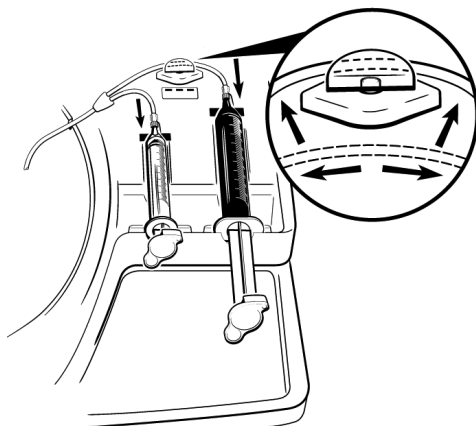

Figure 8. Stretch Syringe 2 tubing and slide into pinch valve.
22. Gently stretch the tubing attached to Syringe 2 and slide it completely into the pinch valve opening (see Figure 8).